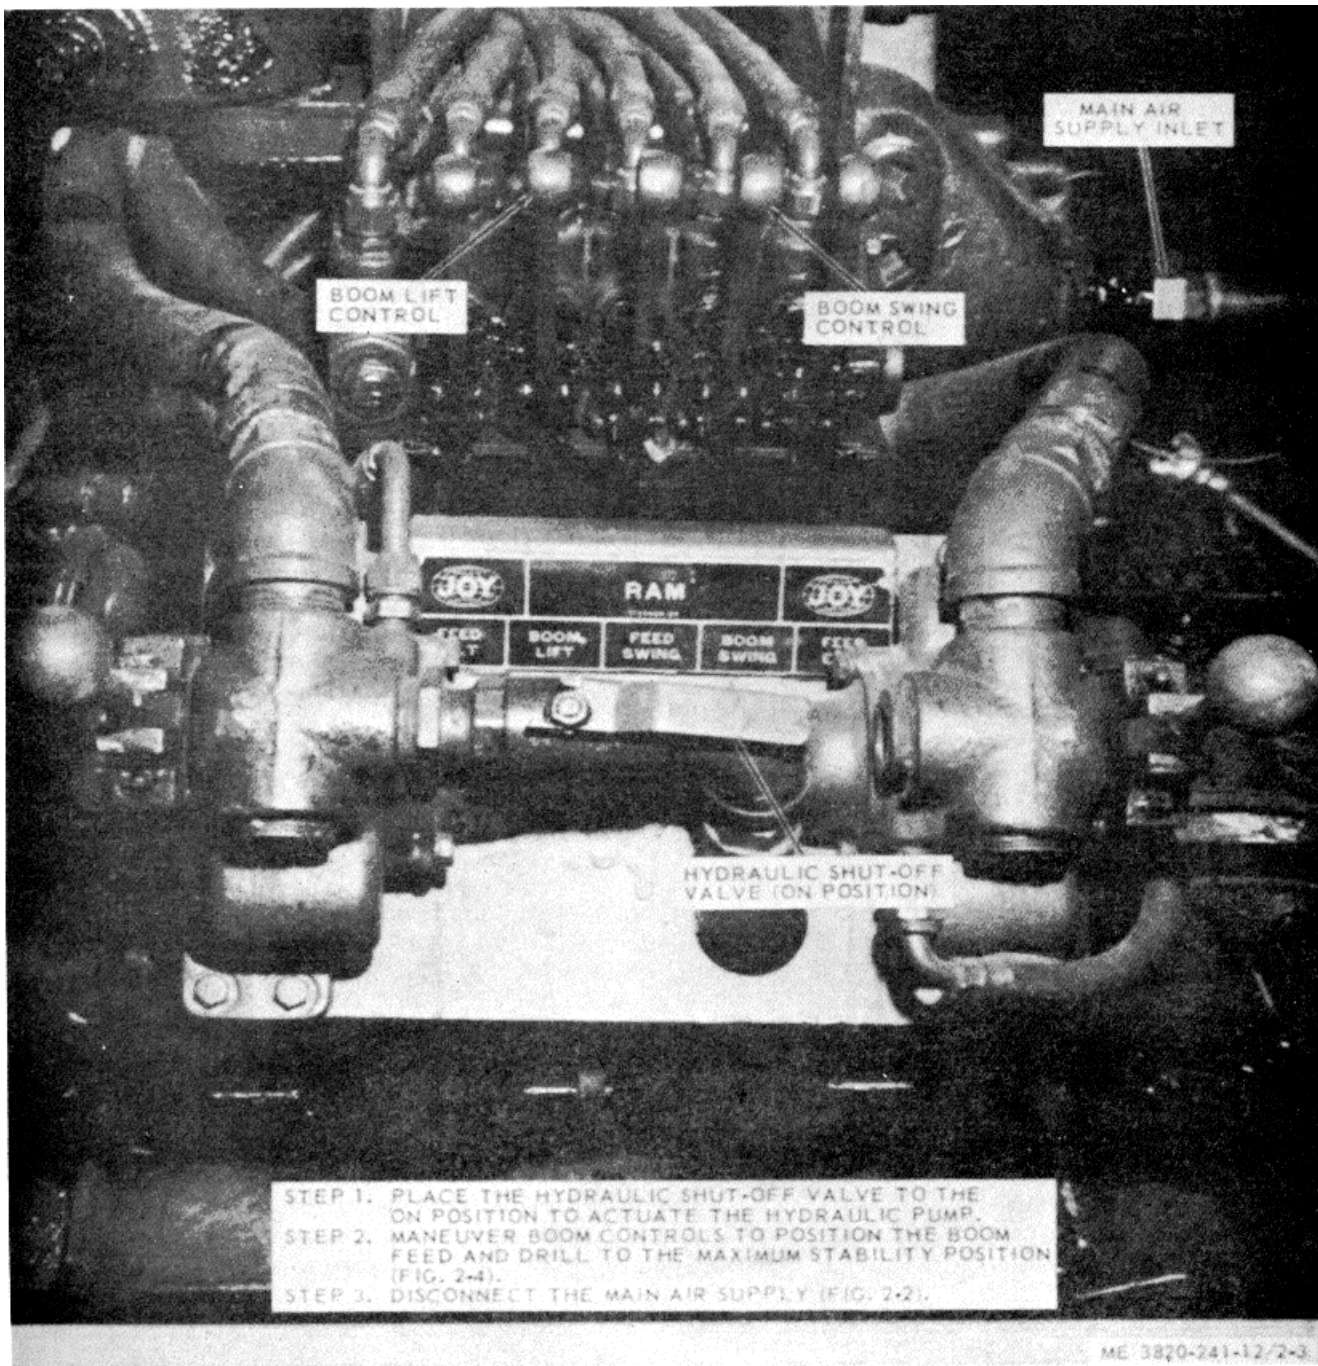

Figure 2-3. Stopping the rock drill.
a. Stop the rock drill as illustrated in figure 2-3.